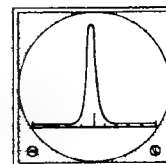

Figure 4
- ( ) Turn the slug of coil L2 clockwise until the IF signal pip is centered on the screen base line. If the top of the pip is off the screen at the top of the CRT, turn the PIP GAIN control counterclockwise until the complete pip pattern is visible. See Figure 4.